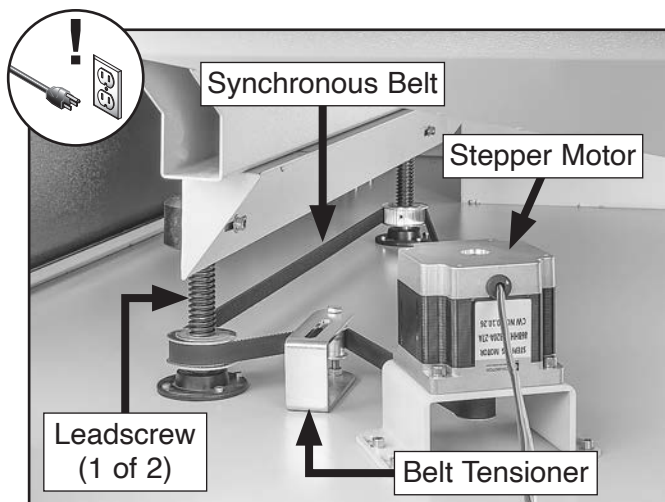

Figure 64. Example of left Z-Axis table lift components.
3. Use stiff brush to loosen existing build-up and vacuum all contaminants from leadscrews, synchronous belts, belt tensioners, and stepper motors (see **Figures 64–65**).
4. Use clean shop rags to protect synchronous belts from cleaning fluids and lubricating oil (see **Figures 64–65**).